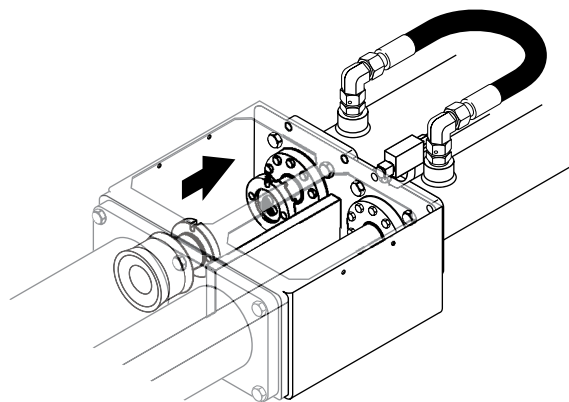

Figure 27
5. Restart the engine and clear the E-stops. Press the concrete pump forward or reverse button and Ram Change Mode button simultaneously. Slowly retract the rod again (Figure 27), until there is room to install the spacer coupling.